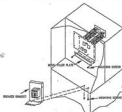

FIG. 1. AIRCRAFT-WEATHER INTERACTION.
5. Slide heater assembly into blower section through the access opening (mounting position is important, check the label for correct position). Secure heater into place with screws provided. When installing heaters on HB2400VD size cabinets, use a metal filler plate (provided) to cover exposed cut out (see fig.1)
- i) On HB2400 units mount the circuit breaker bracket on the right side corner of the cabinet shelf, insert the mounting screws through the blower deck from the blower side of the cabinet (see fig 1).